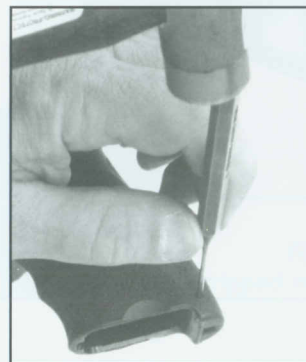

Figure 17
2. With a (1/8 " or 3 mm) metal punch, carefully tap out the backstrap retaining pin (Figure 17 & 18).